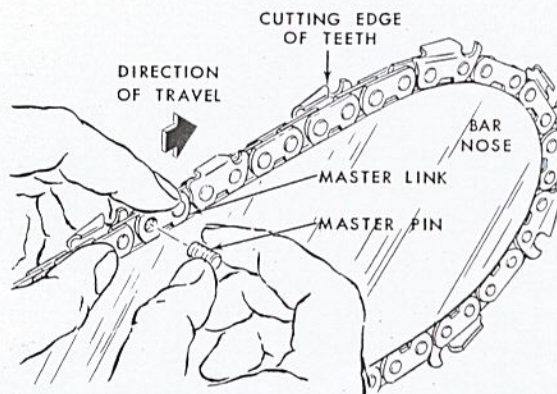

FIGURE 4
7. Fasten the chain ends together with the master pin. (Figure 4)